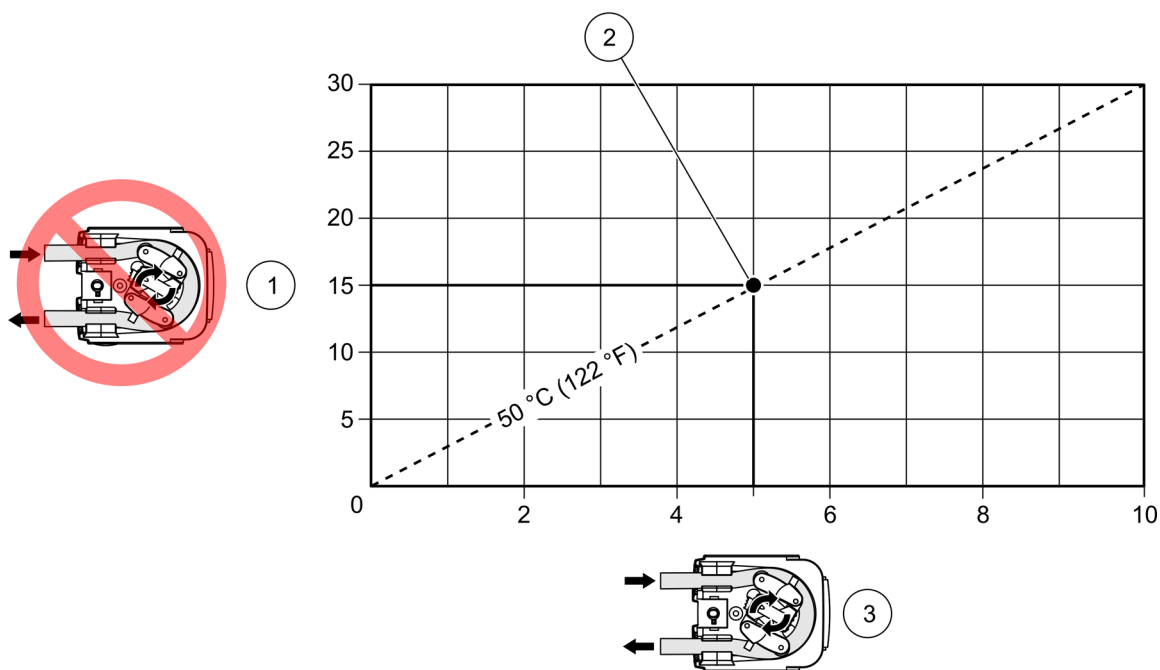

Figure 21 Sampler pump—time on vs. time off at 50 °C (122 °F)
2. Use the graph in Figure 21 to estimate the amount of time that the pump must be off between sample cycles.